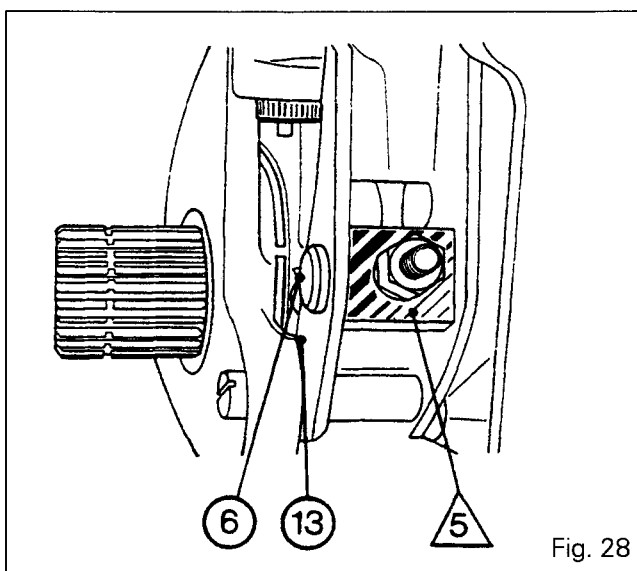

Fig. 28
110. Place the tip of the dial gauge on a tooth of the crownwheel (Fig. 28).
Note: The plate /5\ is rectangular. It must be positioned horizontally, lengthwise, on the pin(6) in the lever (13) to be correct (Fig. 28).